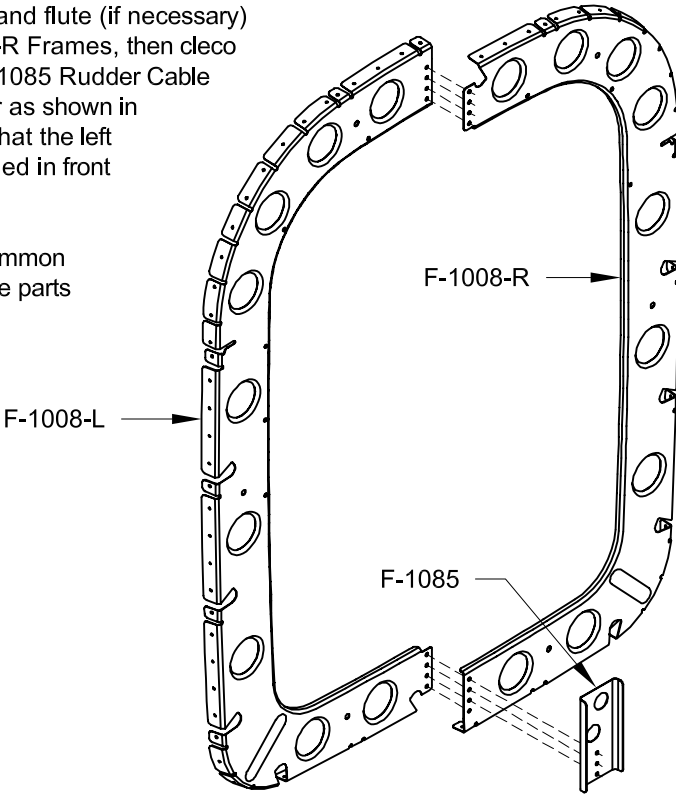

FIGURE 4: ASSEMBLING THE F-1008 FRAME
Step 4: Deburr and flute the F-1007-L & -R Frames, then cleco them together as shown in Figure 4. Again, the left frame is positioned in front of the right.
Step 5: Final-Drill the two 3/16" holes, indicated in Figure 4, to 5/8" using a Unibit step drill.